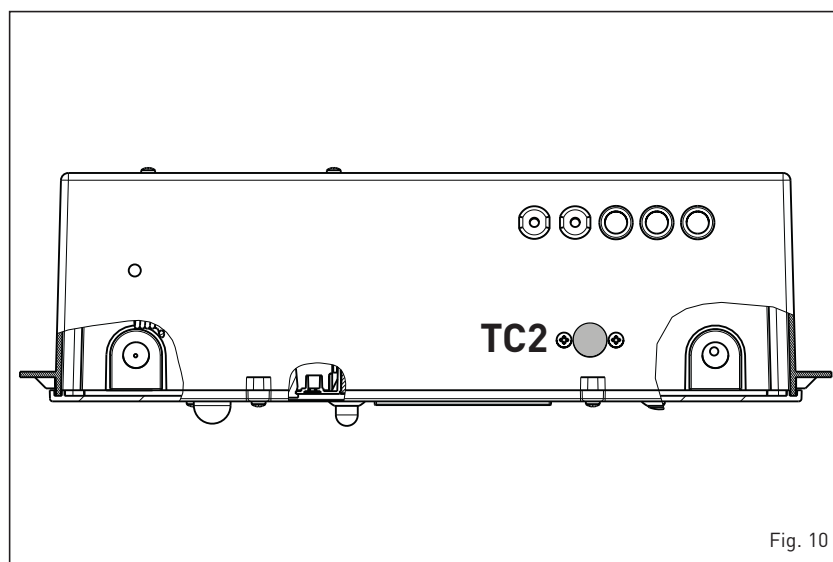

Fig. 10
3.2.6 Second stage modulation thermostat (fig. 10)